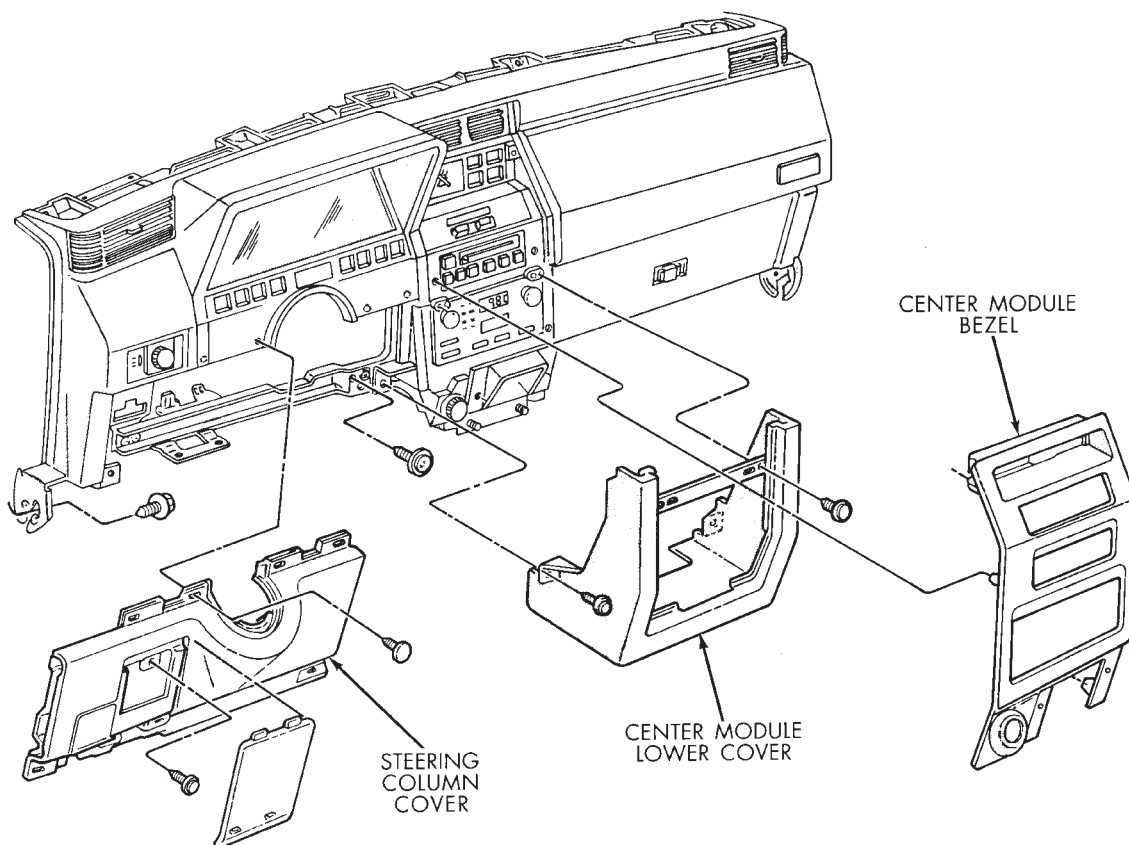

Fig. 21 Lower Instrument Panel
- (1) Disconnect park brake release rod from the park brake handle.
- (2) Remove two screws attaching hood release (Fig. 21).
(3) Remove fuse access door and remove steering column cover attaching screw located directly above the fuse block.
(4) Remove six screws around outside of steering column cover.
(5) Remove steering column cover.
(6) For installation reverse above procedures.
(1) Open ash receiver and remove center module bezel.
(2) Remove module cover to instrument panel retaining screws (Fig. 21).
(3) Remove module cover from vehicle.
(4) For installation reverse above procedures.
(1) Open ash receiver.
(2) Grip module bezel around outer edges and pull rearward to release six spring-type retaining clips (Fig. 21).
(3) For installation position spring clips to instrument panel and push firmly until seated.
(4) Close ash receiver.